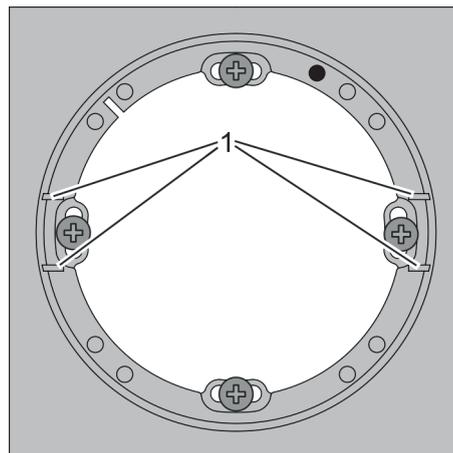

Fig. 9: Frame
2. Screw the frame of the WT 210 / WT 210 BLE to the pre-installed switch box. Ensure that the black mark is at the top right and the retaining rails (fig. 9/1) for the reader are on the right and left.